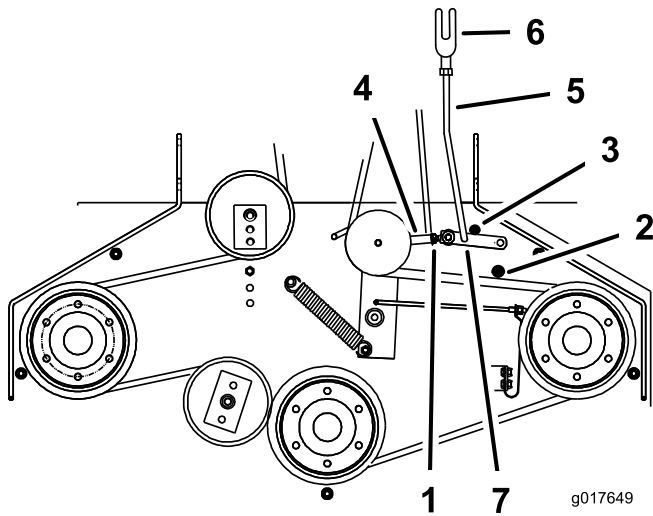

Figure 43
5. Ensure that the assist arm is against the rear assist-arm stop on the deck (Figure 43).
7. The assist arm should contact the front assist-arm stop on the deck. If it does not contact, adjust the bellcrank so that it is closer to the gusset (Figure 43).
8. To adjust the assist-arm link, remove the hairpin cotter from the assist arm (Figure 43).
11. Install the assist-arm link into the assist arm and secure it with the hairpin cotter (Figure 43).